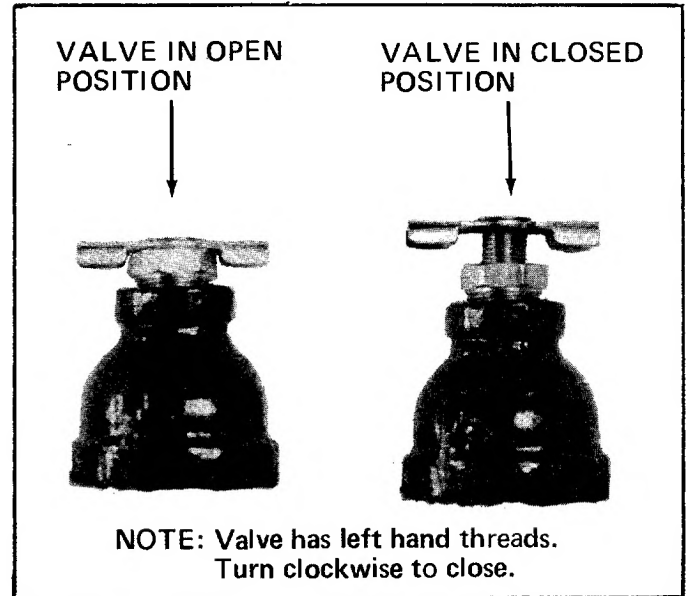

FIGURE 9
3. Open the breather valve. Valve must be open running log splitter. Valve must be closed when transporting log splitter. See figure 9.